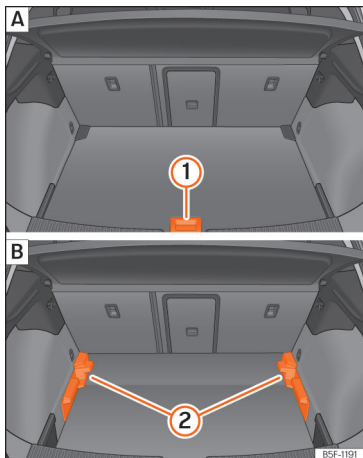

Fig. 188 Variable luggage compartment floor:
- To move from the low position to the high position, lift the floor using the handle »» **Fig. 188** ①, and pull it back until the front of the floor has fully passed the supports ②.
- Move the floor forward over the supports as far as the rear seat backrest and then lower the floor with the handle ①.
- To move from the high position to the low position, lift the floor using the handle »» **Fig. 188** ①, and pull it back until the front of the floor has fully passed the supports ②.
- Now let the front part fall to the floor and slide the floor forwards as far as the rear seat backrest; lower the floor at the same time with the handle ①.
- Lift the variable floor in the high position using handle »» **Fig. 188** ①, pull it up and push it towards the backrest of the rear seats until it folds along the hinge line and the movable part of the floor is resting on itself.